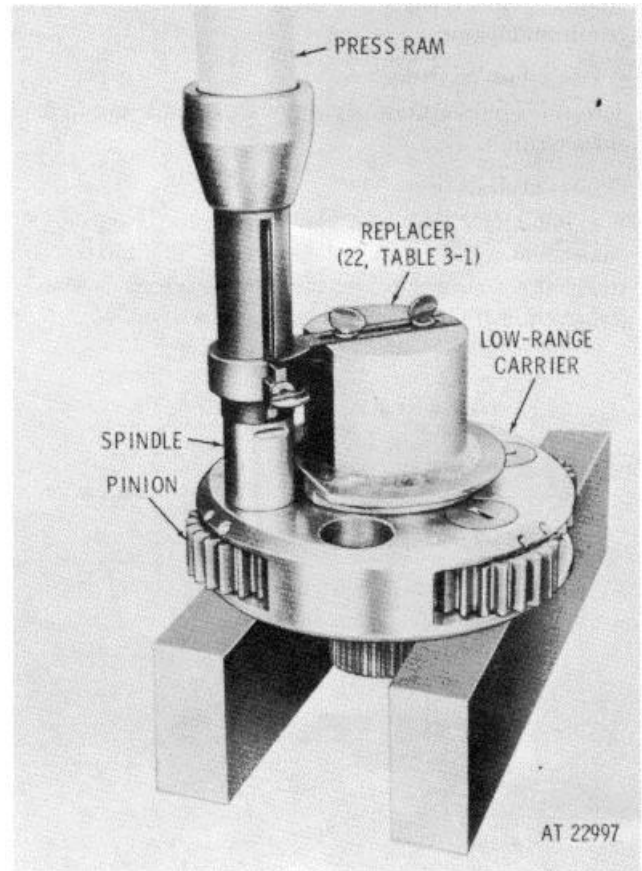

Figure 7-14. Installing spindle into low-range planetary carrier.
f. Using replacer (22, table 3-1), install a pinion spindle (fig. 7-14). Press the spindle flush with, to 0.010 inch below, the spindle bore surface of the carrier.